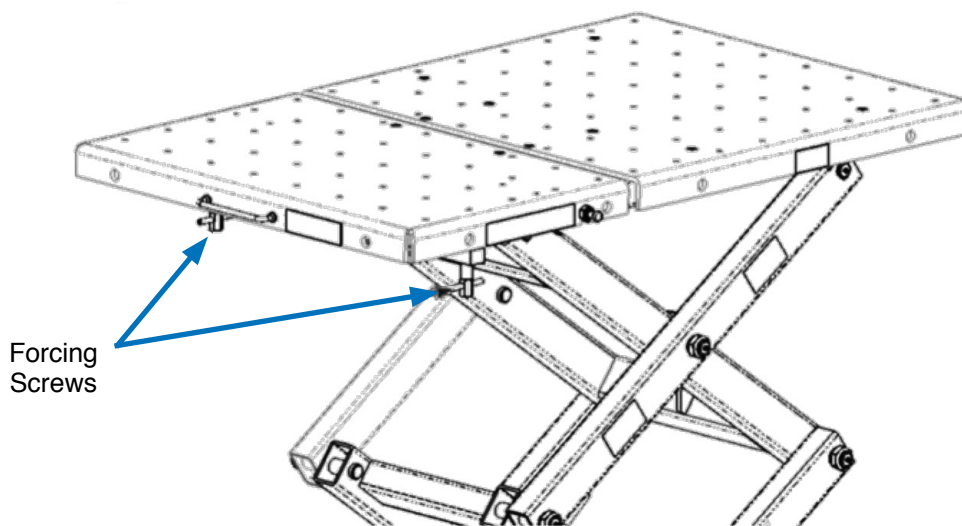

FIG. 1
1. Turn the forcing screws in/out fully to ensure proper function of the platform tilting feature. See Fig. 1 of "Fine Adjustment Tilting Feature" section.
The forcing screws shown in Fig. 1 allow the user to finely tilt the platform to help remove or install vehicle components. This feature provides a total of two inches of tilt at the front of the platform which helps compensate for uneven shop floors, difficult fastener locations, etc. The forcing screws can be operated by either hand, wrench or socket, depending on the applied load.